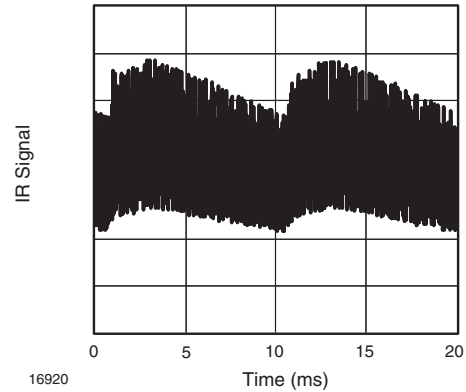
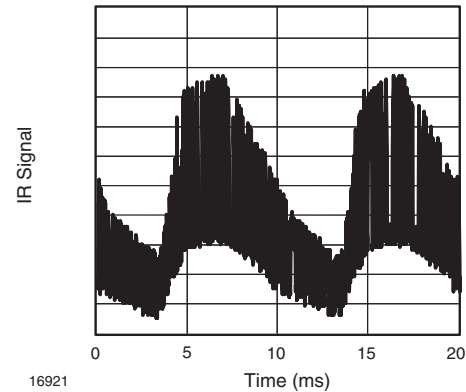

Fig. 13 - IR Disturbance from Fluorescent Lamp with Low Modulation
Fig. 14 - IR Disturbance from Fluorescent Lamp with High Modulation
- Strongly or weakly modulated noise from fluorescent lamps with electronic ballasts (see figure 13 or figure 14)